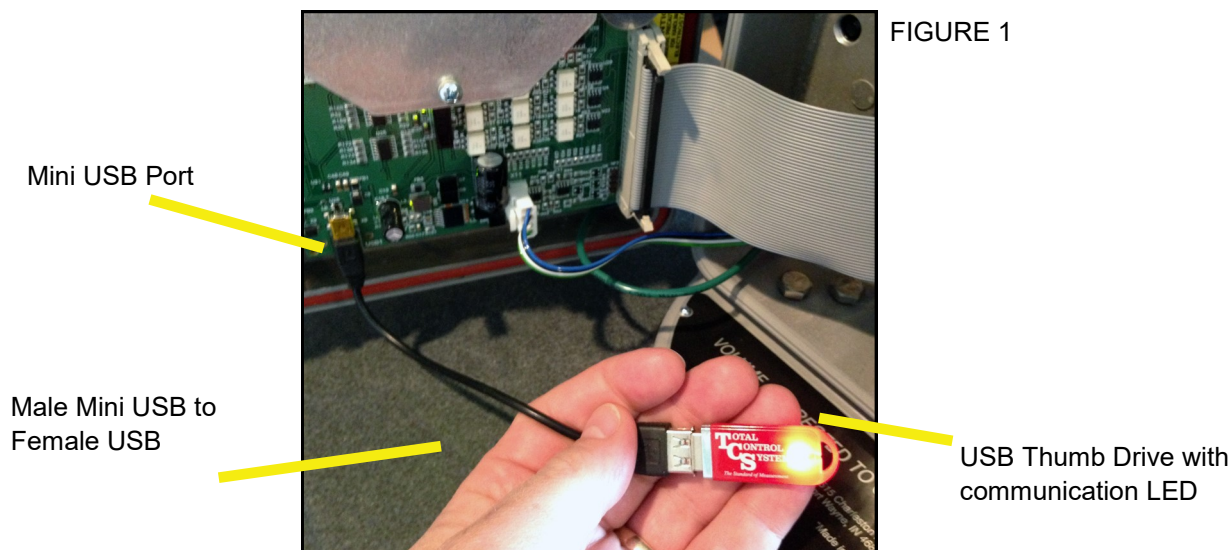

FIGURE 1
2. Open the TCS 3000 register. On the front cover of the register, there are 2 mini-USB connections. Using a factory supplied USB cable, attach the thumb drive to the USB port closest to the inside of the register. This port is the highest on the circuit board of the two. See Figure 1.
3. Plug the USB cable into the USB port, and then insert the USB thumb drive into the mating cable (see Figure 1).